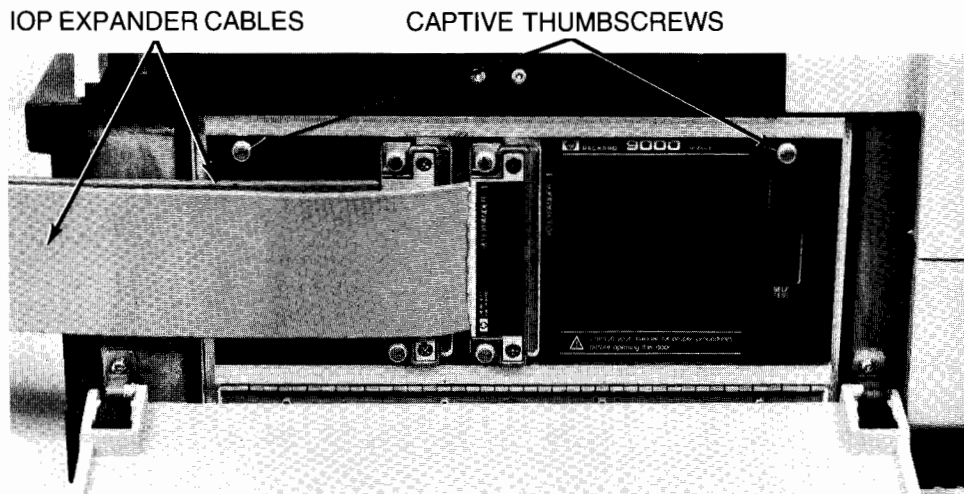

Figure 4-17. Removing Upper Board, View 1
3. Disconnect IOP expander cables, if present, from processor stack door (Figure 4-17).
4. Loosen two captive thumbscrews on processor stack door (Figure 4-17) and swing door open, allowing door to rest in open position.
4. Disconnect IOP expander cables, if present, from processor stack door (Figure 4-17).
5. Disconnect IOP expander cables, if present, from processor stack door (Figure 4-17).